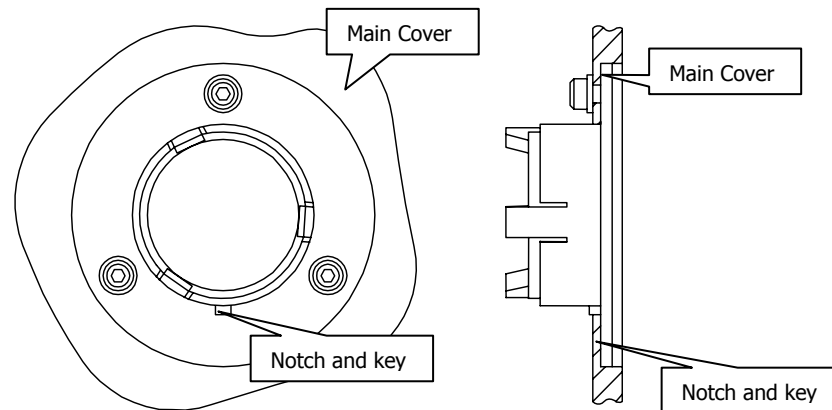

Figure 39 Window installed in Main Cover
4. Secure the window to the main cover by fitting the screws and washers and tightening the screws using the hexagonal wrench (Figure 39).